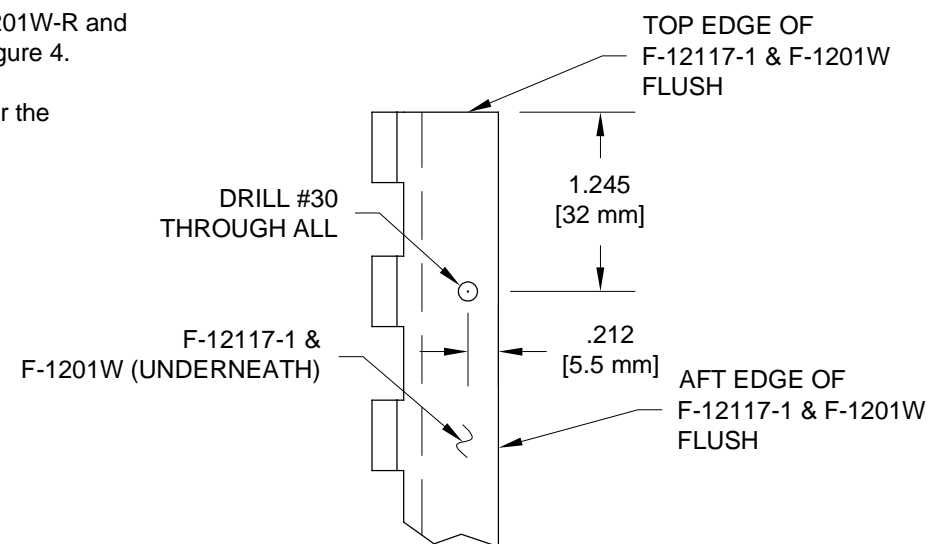

FIGURE 3: DRILLING INITIAL
Step 3: Clamp F-1201W and F-12117-1 together with the top and aft edges flush to each other. Mark, punch, then drill #30 the hole shown in Figure 3. Separate and deburr each part when finished.